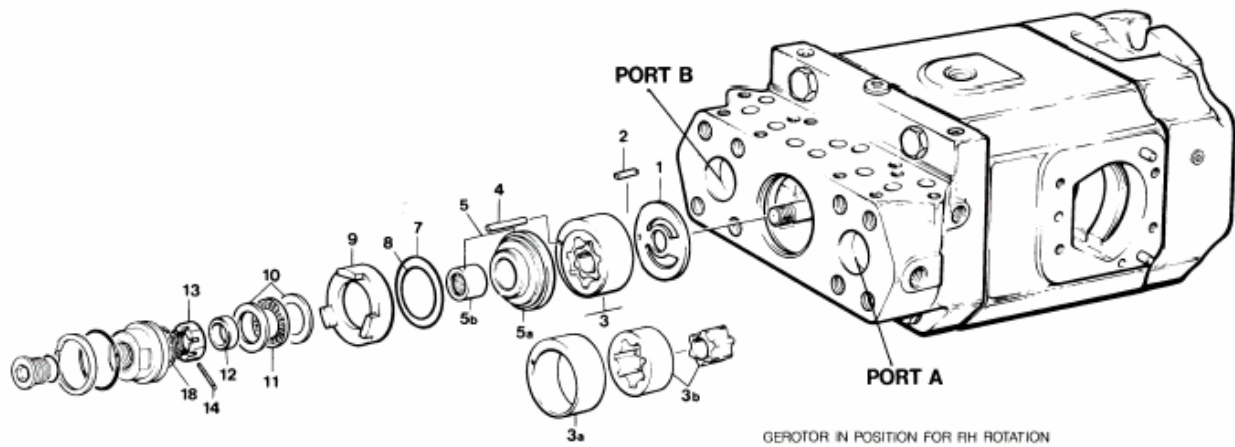

Figure 9
**See Figure 9.** Position the unit with the shaft in a horizontal position and the valve block mounting surface turned up. Rotate the shaft until the small keyway in the auxiliary shaft is at the 12 o'clock position.
### PARTS LIST FOR FIGURE 9 gerotor and barrel holddown